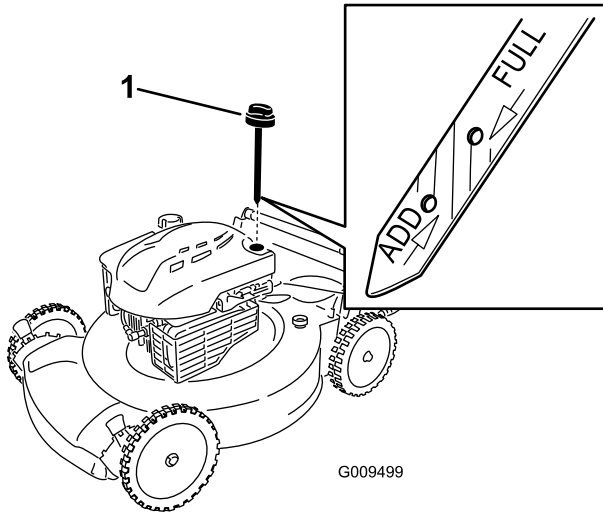

Figure 10
2. Remove the dipstick (Figure 10).
5. Read the oil level on the dipstick (Figure 10).
- If the oil level is below the Add mark on the dipstick, slowly pour a small amount of oil into the oil-fill tube, wait 3 minutes, and repeat steps 3 through 5 until the oil level is at the Full mark on the dipstick (Figure 10).